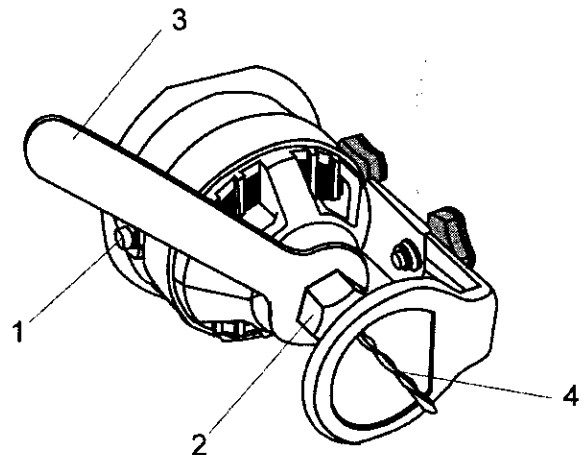

Fig. 2
1. Depress the shaft locking button (1) and rotate the collet lock nut (2) clockwise with the other hand until the locking button drops into place, preventing the shaft from turning (see Fig. 2).
2. While continuing to hold the shaft locking button IN, use the collet wrench (3) to turn the collet nut counter clockwise. Loosen the collet nut 2 or three turns.
3. Install cutting bit in the collet as shown in Fig. 2.